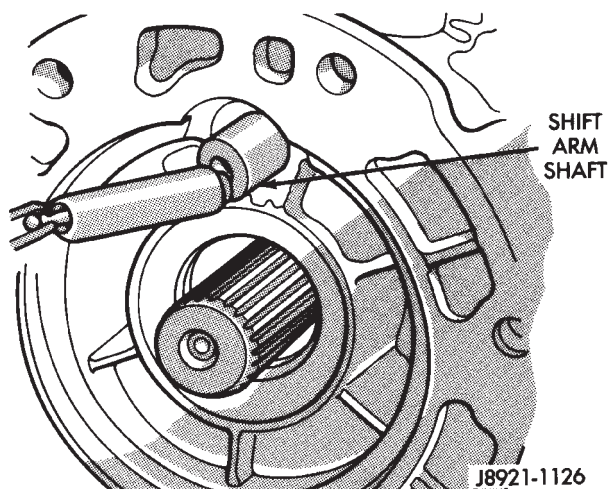

Fig. 123 Installing Shift Arm Shaft
(21) Lubricate shift arm shaft and install it in adapter housing (Fig. 123).